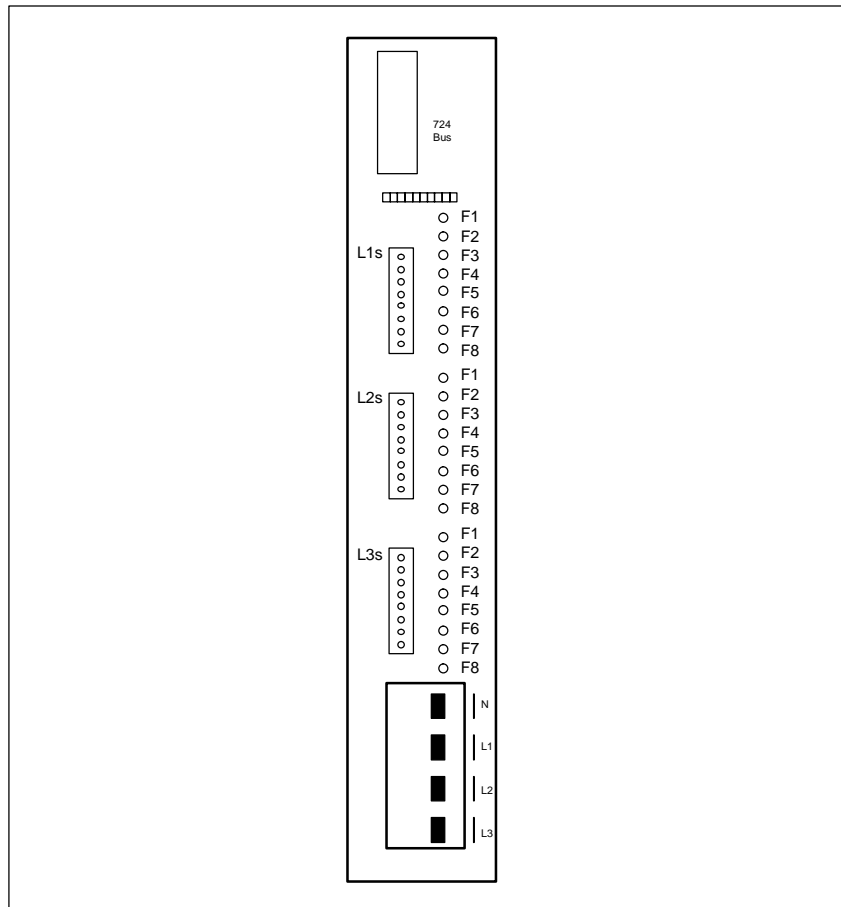

Figure 4-10 Location of the channel fuses on the LA 724 power output (6ES7 171-2AA02-0AA0)
- directly on the front (6ES7 171-2AA02-0AA0, see figure 4-10)